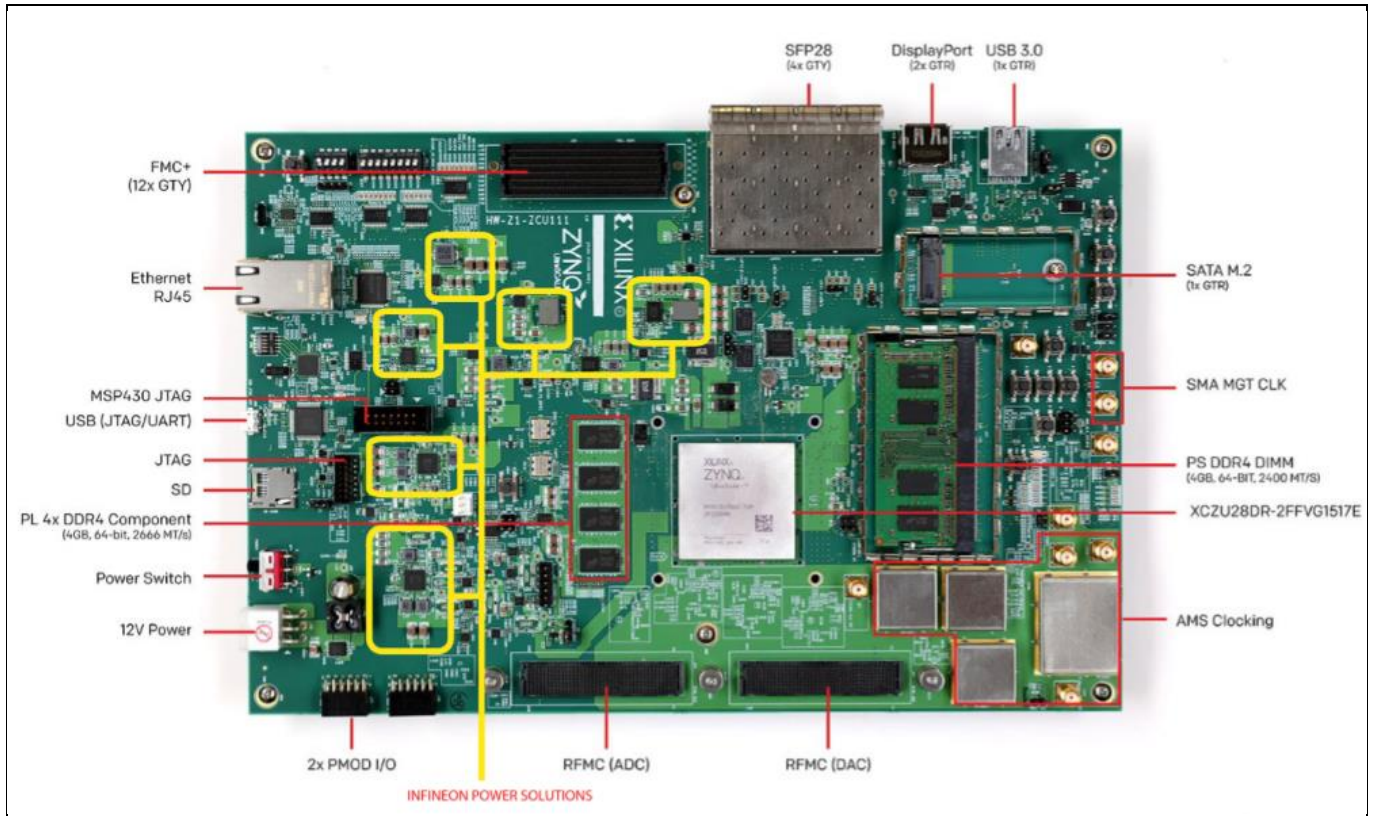

Figure 6 Infineon power solution for Zynq UltraScale+ RFSoc, Zu28 – ZCU111
- Infineon PowIRCenter GUI software for power design and evaluation (Figure 6)